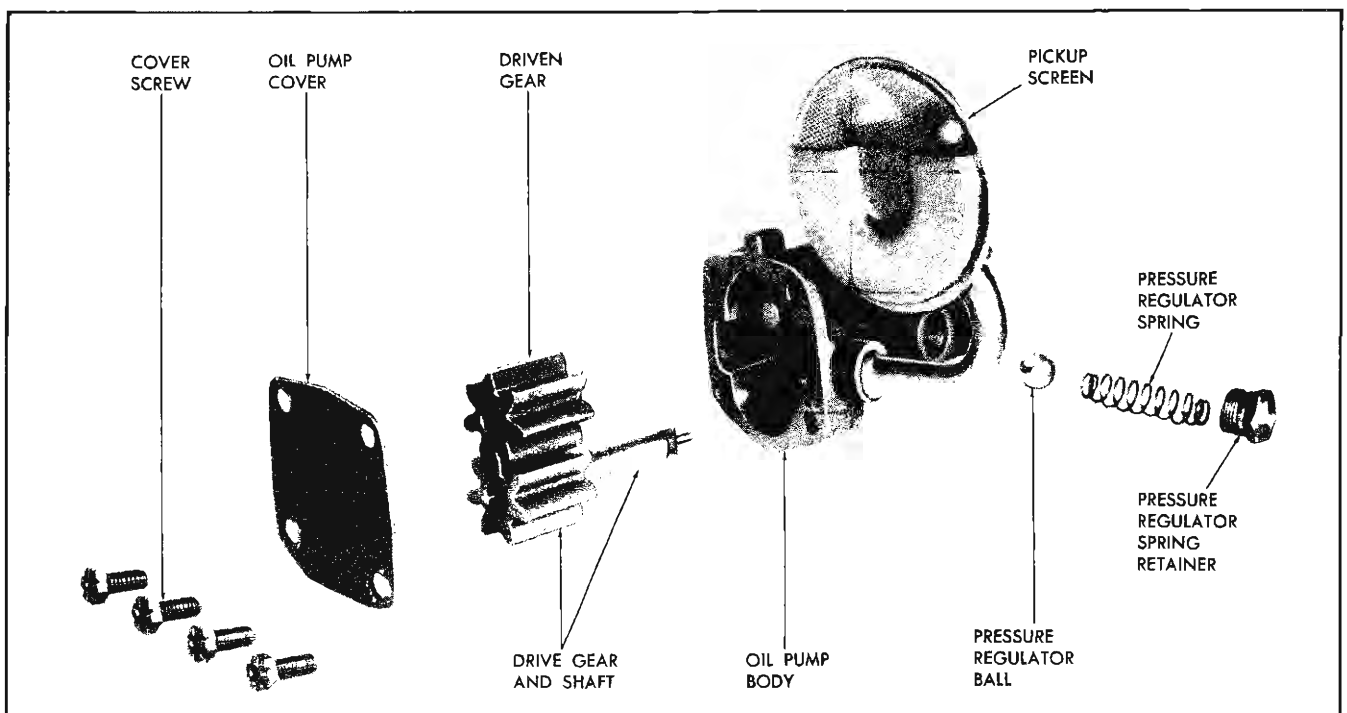

Fig. 6-53 Oil Pump Exploded View
2. Inspect pressure regulator spring (Fig. 6-53) for distortion, cracks, and wear on sides.
5. Inspect pump gears and end of drive gear shaft for wear (Fig. 6-53).